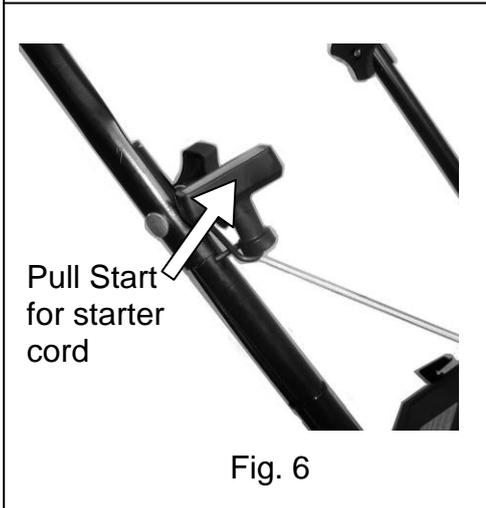

Fig. 6
3. Pull the starter cord (Fig.6) sharply until the engine runs. Wait one or two seconds between repeated pulls.